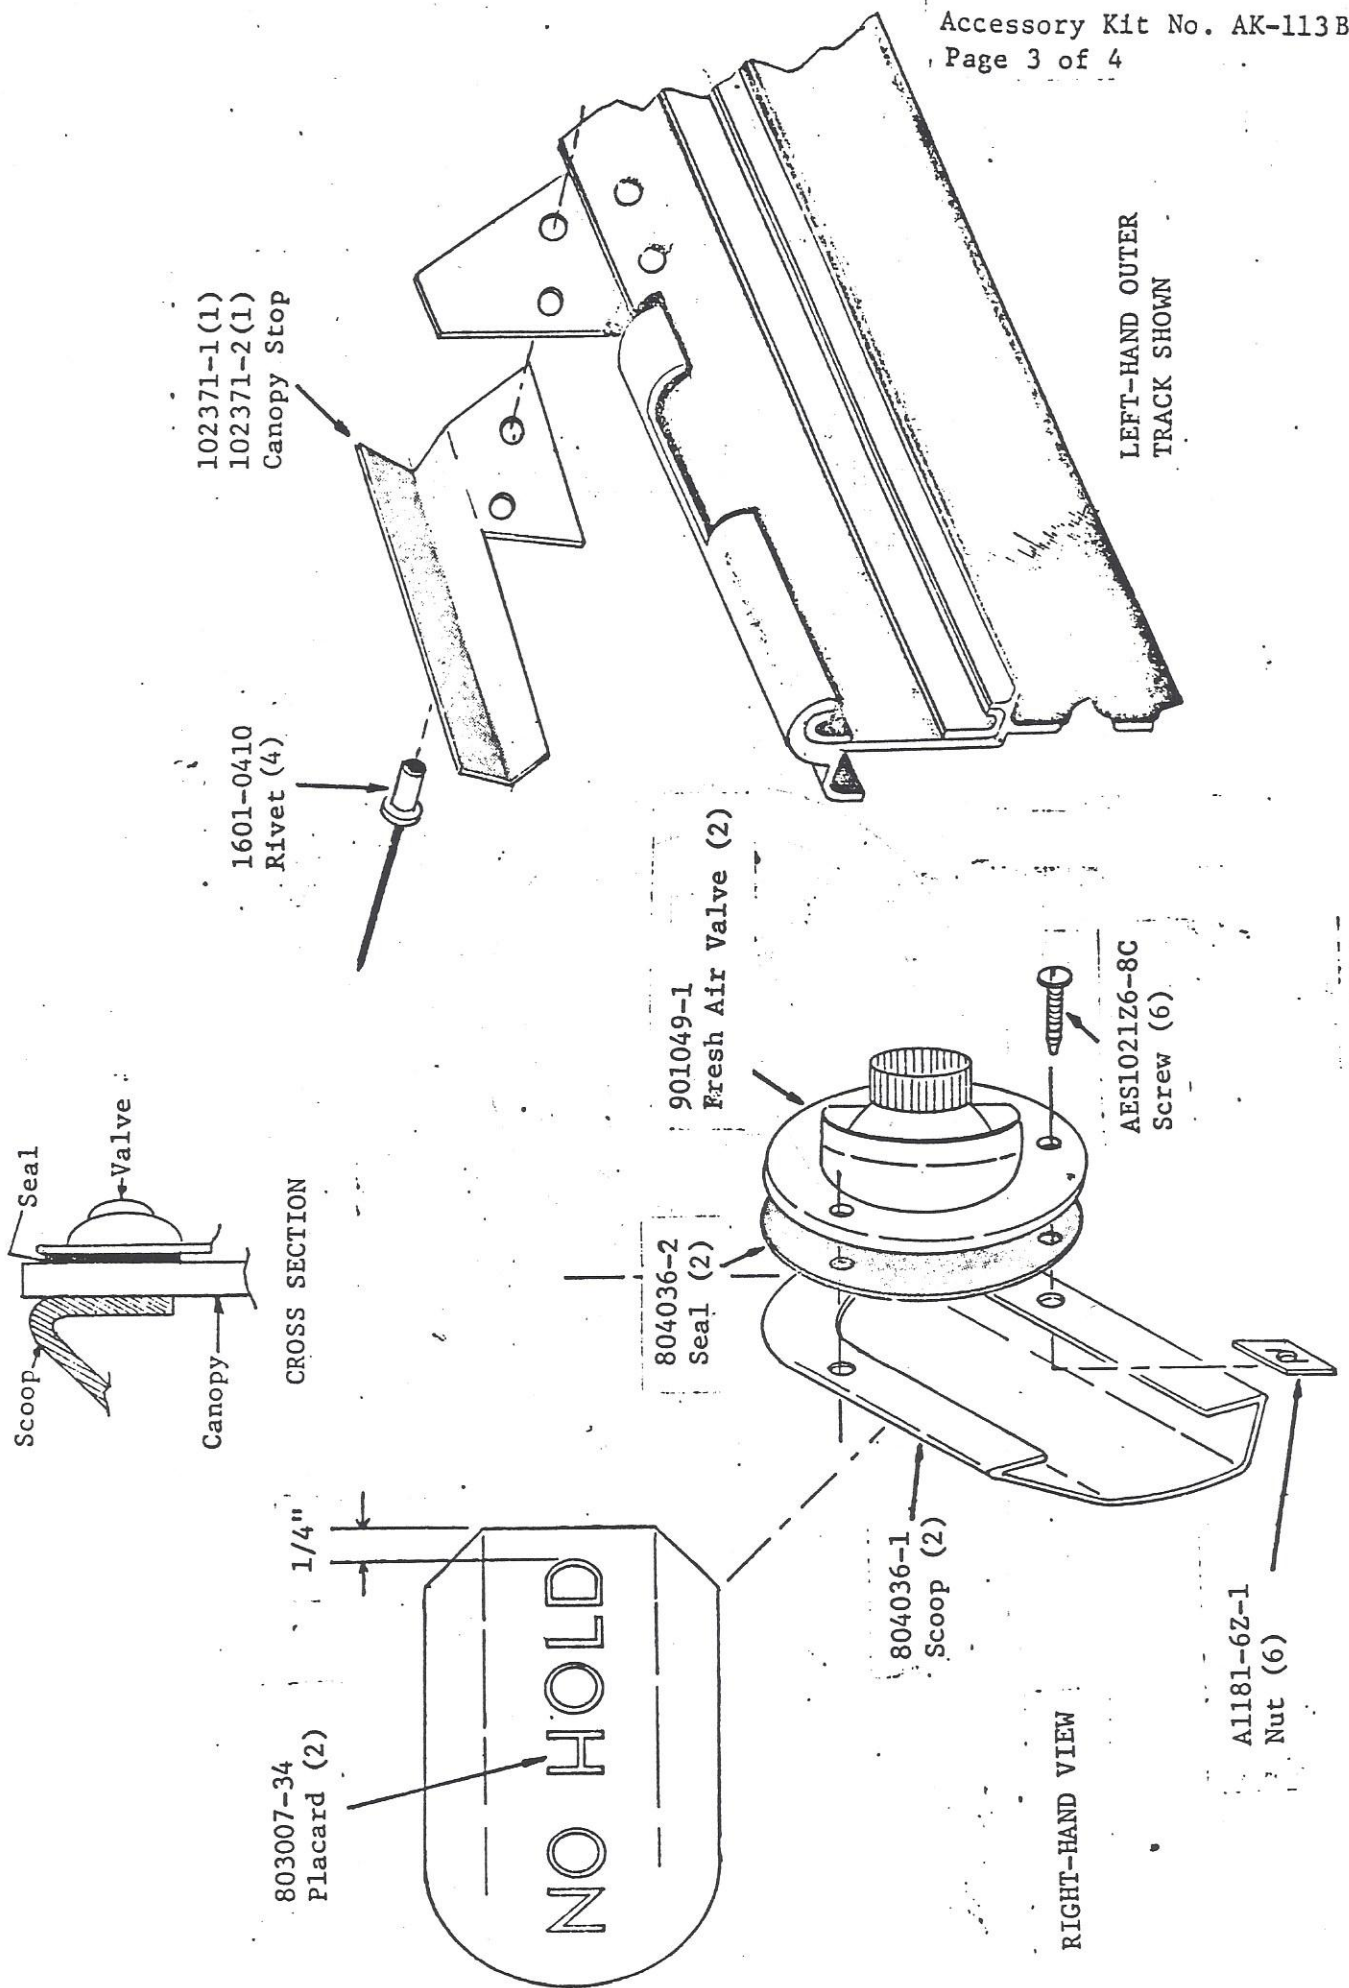

FIGURE 1
Installation Instructions (Refer to figure 1)
4. Drill .136/.139 dia. holes (2) in each original stop. Drilling should be done from inside of aircraft. Care should be taken not to hit canopy glass with drill bit as hole is drilled.
5. Using "pop" rivet tool (United Shoe Machinery, Part No. PRG410 or equivalent), install extended stops as shown in figure 1 using (2) 1601-0410 rivets per stop.
5. Locate 804036-1 scoop, 804036-2 seal and 901049-1 valve with scoop facing forward, valve facing aft and (3) holes in above items lined up per figure 1. (Note: Scoop to be installed outside of aircraft and valve inside of aircraft.)